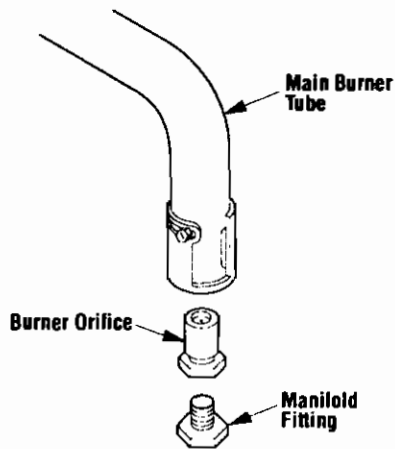

Figure 26
To derate this unit, order and install the appropriate high altitude orifice kit per the following chart. Remove two (2) Phillips head screws securing the burner brackets to the base of the appliance firebox. Lift and remove the burner. Remove the orifice (Figure 26) and replace with the appropriate one from the kit. Refer to the following chart. Be sure to attach the conversion sticker provided with the kit to the rating plate on the appliance.